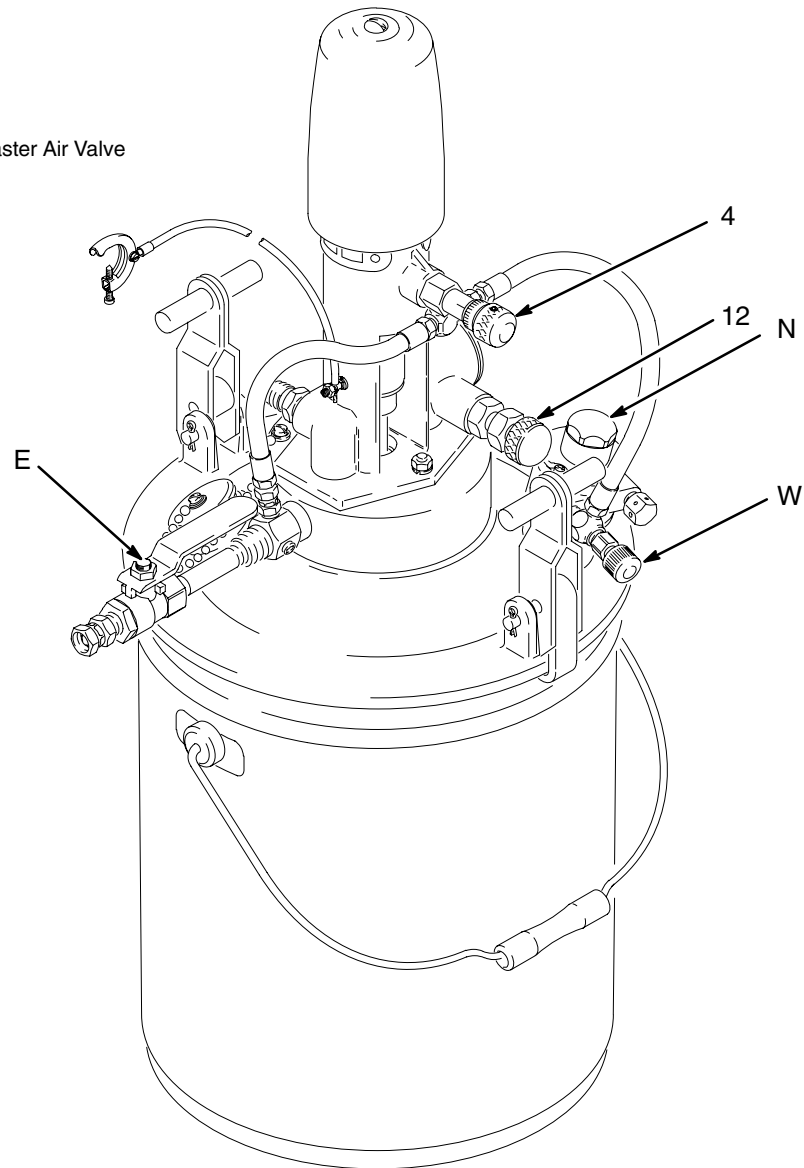

Fig. 5
When starting the agitator, gradually increase the speed of the agitator by turning its needle valve (W) until a vortex begins to form in the fluid. Reduce the speed slightly. See Fig. 5.
1. See Fig. 5. Remove the spray nozzle from the gun. See the gun instruction manual.
3. Close the pump air filter/regulator (G).
4. Close the fluid drain valve (K).
7. Open the restrictor valve (12) by turning the knob clockwise as far as possible.
8. Open the bleed-type air valves (E, M). Open the air filter/regulator (G).